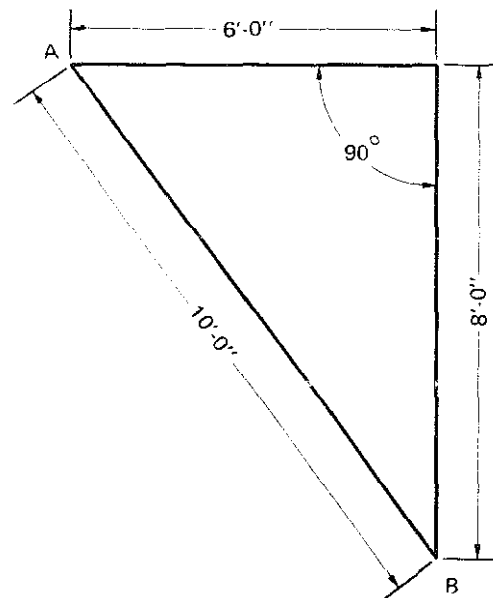

Fig. 5-22 The 6-8-10 triangle
1. Measure a distance of 6-feet along one side of the object. See figure 5-22. (If the 3-4-5 method is used, measure 3 feet.)